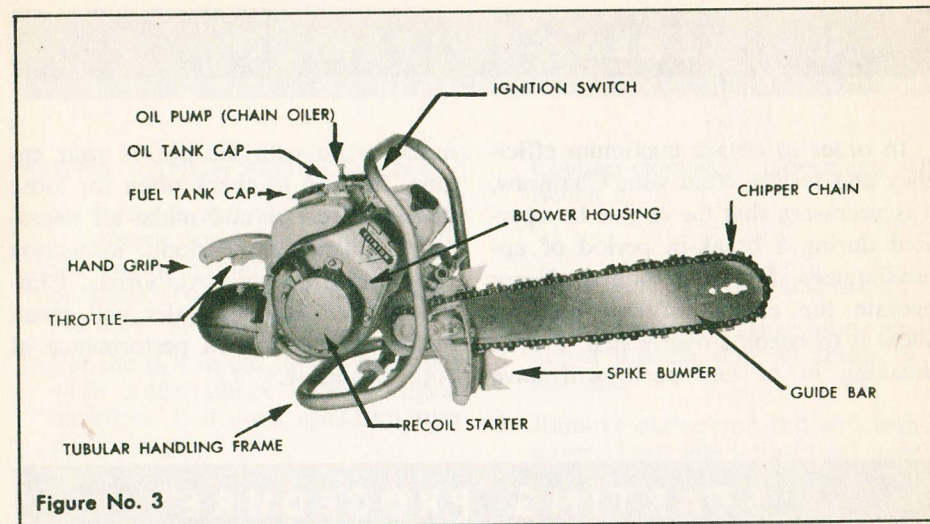

Figure No. 3
A positive action oil pump located in the upper portion of the fuel tank (See Figure No. 3) provides ample lubrication to the cutting chain and guide bar. Fill this oil reservoir with SAE #30 oil, being sure to keep the oil level in the reservoir above the intake tube of the oil pump. When the reservoir is filled and cap replaced, push the oil pump plunger a couple of times until pressure is felt, or until you see oil appearing on the guide bar opposite the convenient oil fitting in the reduction housing. In extremely cold weather, or when cutting wood which contains a lot of pitch, sap or resin, use a 50-50 mixture of kerosene and oil in the oil reservoir. This will provide good lubrication as well as keeping the guide bar groove and chain comparatively clean.
Major controls on your Clinton chainsaw are conveniently grouped around the hand grip assembly for finger tip action. You will find your saw easy to manage once you associate the following controls with their locations on the saw. (See Figure No. 3).
8. Before cutting with saw, pump the chain oiler (See Figure No. 3) a few times to lubricate groove in guide bar. Use the pump frequently while the chain is in operation.